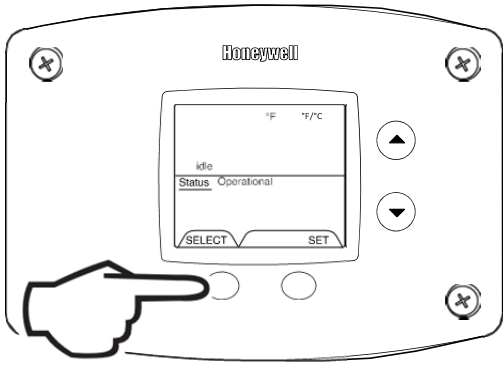

Fig. 19
1. Press 'SELECT' button until °F/°C is displayed (Fig. 19).